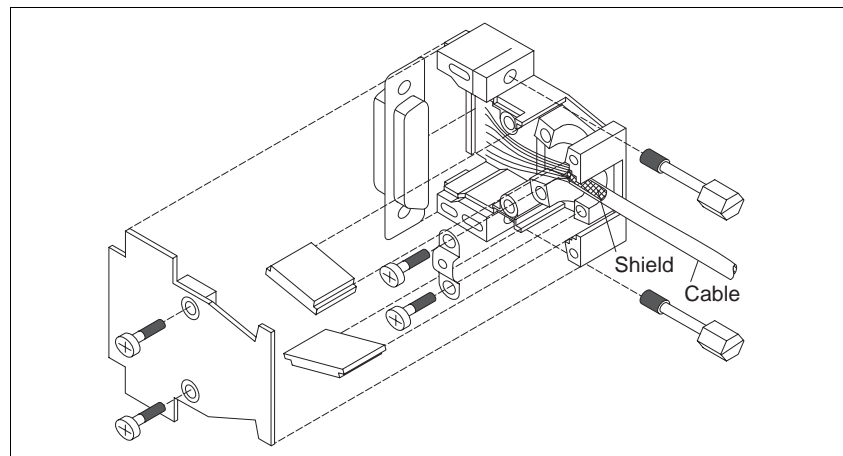

Fig. 2-13 Signal connector assembly - device end
3. Insert two hexagon head bolts (fig. 2-13) into the connector shell.